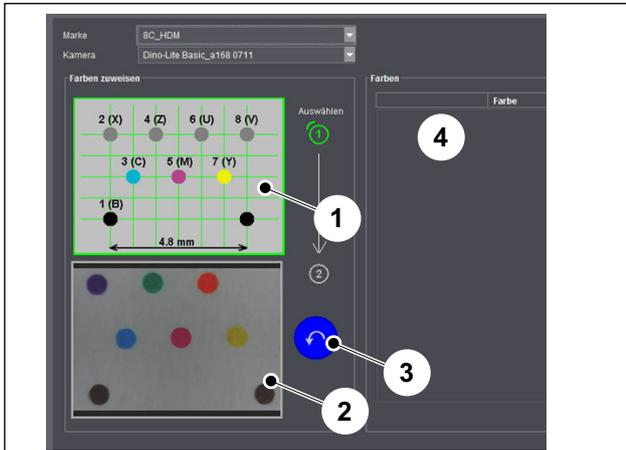

Fig. 12 Dialog box "Assign colors"
The dialog box **Assign colors** consists of the pattern (Fig. 12/1), the preview (Fig. 12/2) and the **Colors** table (Fig. 12/4).
- Click on a color dot in the pattern (Fig. 12/1). Then click on the corresponding color point in the microscope image (Fig. 12/2).
You can only assign color dots that were printed. The example in Fig. 12 shows a printed 7-color form. In this example, you cannot assign color 8 (X).
When you have assigned a color, the color is displayed in the **Colors** list (Fig. 12/4). In the case of special colors, the color dot in the pattern is not displayed in gray, but in the respective color.
- You can undo a color assignment with the *Undo* button (Fig. 12/3).